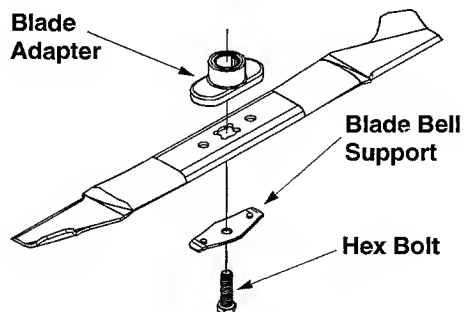

Figure 17
- Remove the bolt and blade bell support which hold the blade and adapter to the engine crankshaft. See Figure 17.